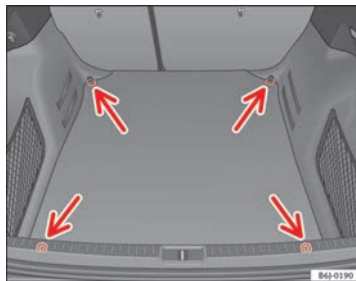

Fig. 94 Location of fastening rings in luggage compartment
- Use the fastening rings to secure the load ⇒ fig. 94 -arrows-.